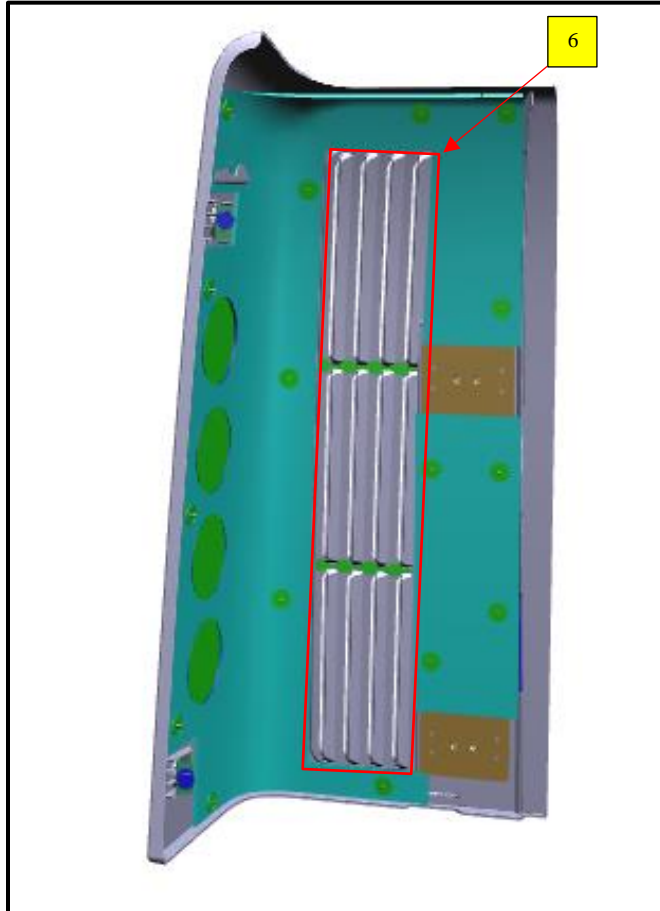

Figure 5: Louver Door Stiffener Bracket Paint Location reference.
- 11) Paint the interior of door with New Flyer standard white paint #6 (NF PN: 375246). See figure 5.